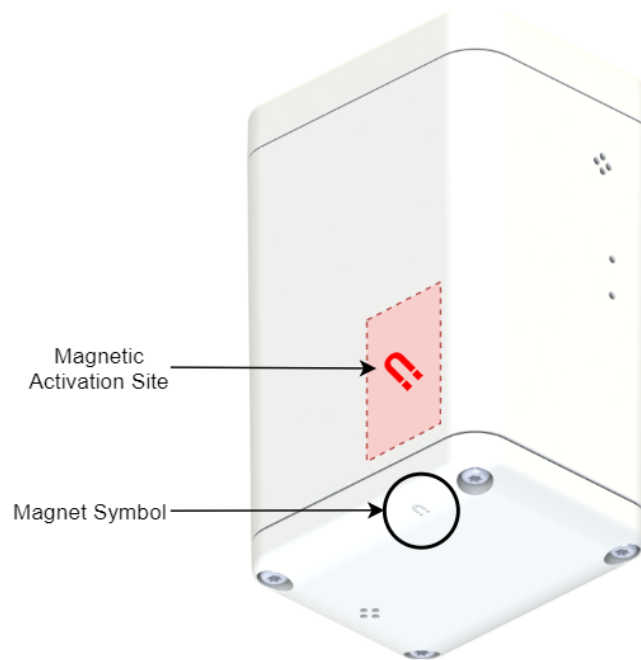
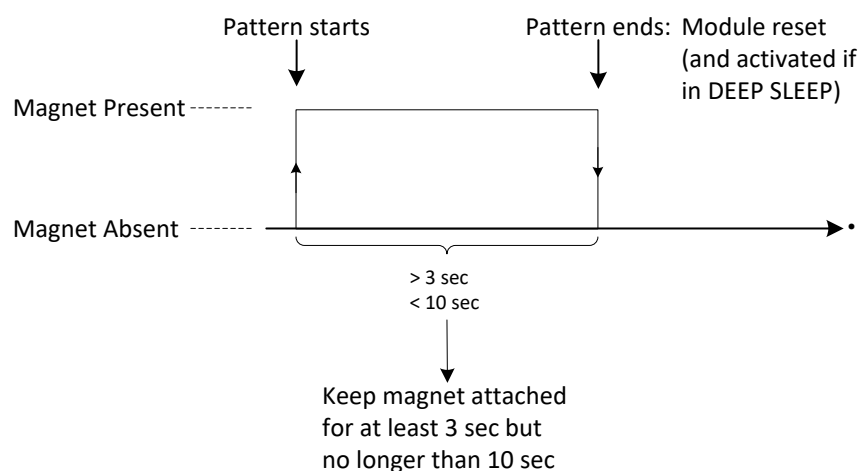
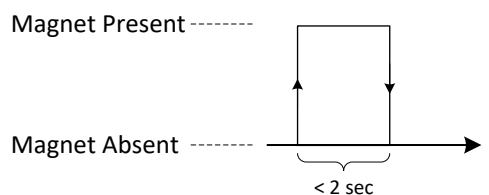

Figure 2-1: Enclosure View Showing Magnetic Activation Site and Symbol
Figure 2-2: The Magnetic Activation/Reset Pattern.
Figure 2-3: The Magnetic Forced UL Pattern
The PELICAN is equipped with an internal hall-effect sensor, which detects the presence and absence of a magnet. A magnet will be detected if it is sufficiently strong and brought into contact with the enclosure at the *magnetic activation site*, which is located on the enclosure body right above the magnet symbol on the endcap, as shown in Figure 2-1.
The magnetic activation/reset pattern is illustrated in Figure 2-2. A “magnet presence” is achieved by placing a magnet against the enclosure at the magnetic activation site as shown in Figure 2-1. A “magnet absence” is achieved by taking the magnet away from the enclosure. Figure 2-2 shows that the pattern involves sustaining a “magnet presence” continuously for at least 3 sec but less than 10 sec.
1. **Magnetic Activation/Reset Pattern:** The same pattern to wake the sensor from DEEP SLEEP (Figure 2-2) can be used to put the sensor back into DEEP SLEEP, if applied while the sensor is in JOIN mode. I.e.: If the sensor detects the magnetic pattern before it has received the JOIN ACCEPT DL, then it will re-enter DEEP SLEEP mode.
The magnetic pattern for forced ULs involves briefly tapping the magnet against the magnetic activation site then removing it in less than 2 seconds, as illustrated in Figure 2-3. The magnetic activation site is shown in Figure 2-1.